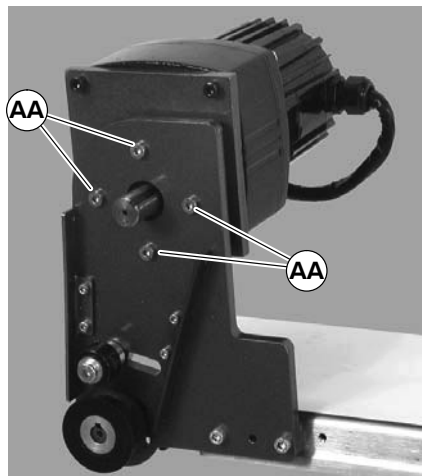

Figure 19
7. Remove four gear motor mounting screws (AA of Figure 19). Remove gearmotor/adaptor plate Assembly.
10. Install gearmotor/adaptor plate assembly on mounting bracket with screws (AA of Figure 19). Tighten screws to 103 in-lb (12 N-m).